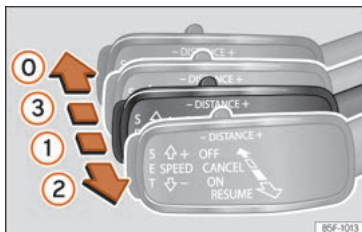
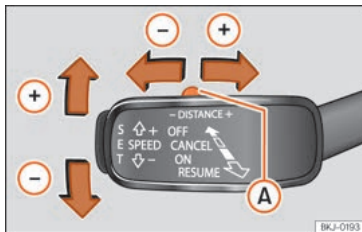

Fig. 272 On the left of the steering column: third lever for operating the Adaptive Cruise Control.
Fig. 273 On the left of the steering column: third lever for operating the Adaptive Cruise Control.
Once you are driving, if you wish to set the current speed as the vehicle's cruise speed and activate the ACC, press the **SET** »» Fig. 273 button. If you wish to increase or reduce speed by intervals of 1 km/h (0.6 mph), move the lever to position ② »» Fig. 272 or press the **SET** button, respectively.
To increase/reduce the distance level, press the rocker switch towards the left/right »» Fig. 273 (A).
- To activate the ACC, with the third lever in position ① press the **SET** button or move the third lever of the ACC to position ② »» Fig. 272. At this point, the image of the
To disconnect the ACC move the lever to the  position »» Fig. 272 (engaged). An **ACC deactivated** message appears and the function is totally deactivated.
If you do not wish to disconnect the ACC, just to switch it temporarily to inactive mode (Standby), move the third lever to position  »» Fig. 272 or press the brake pedal.